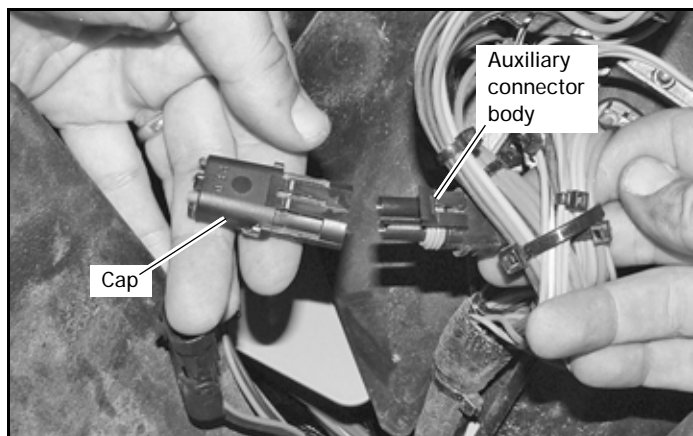

FIG. 4
10. Locate the auxiliary connector body under the control panel and remove the cap. Fig. 4